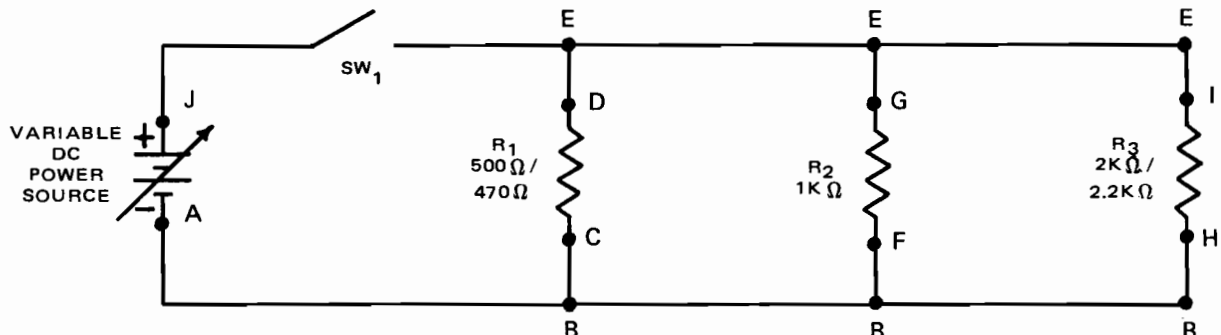

Fig. 5-2-1C
1. Connect a parallel dc circuit as in Fig. 5-2-1C. Use individual resistors or those mounted on a resistor decade module.